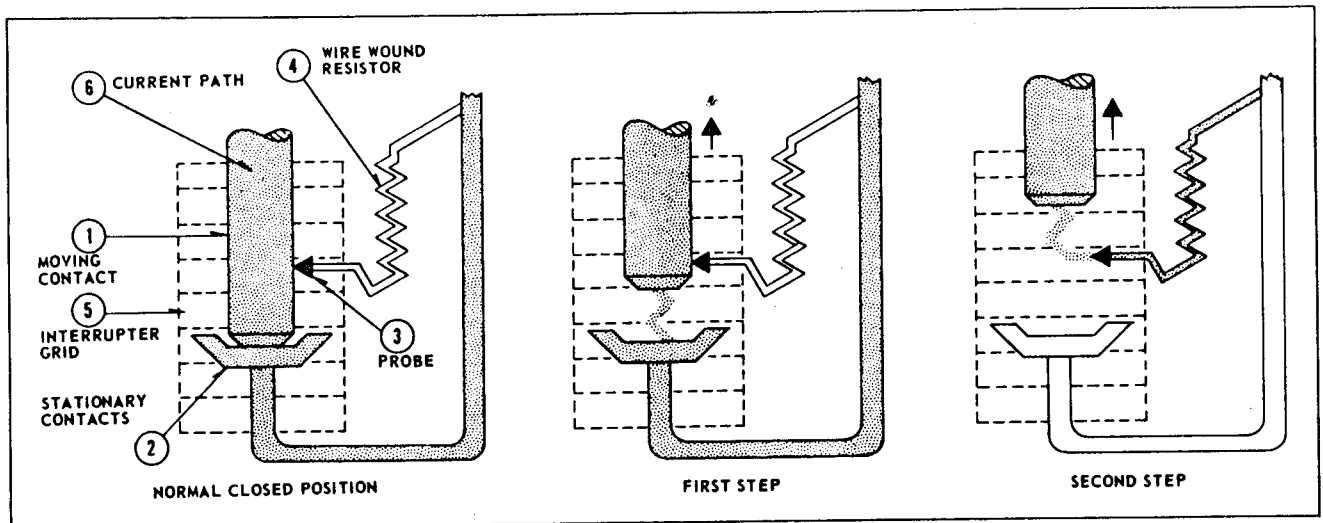

Fig. 13. Resistance Step Switching
To reduce the transient currents during a capacitor switching operation, a damping resistor is connected between the stationary contact (Figure 13, Item 2) and a probe (3) placed in the interrupter assembly of the switch. The resistor is of the cylindrical wire-wound type (4) and is so arranged as to be in the circuit only during the opening and closing operation. The switching operation is accomplished in two steps and hence is termed "resistance step switching."